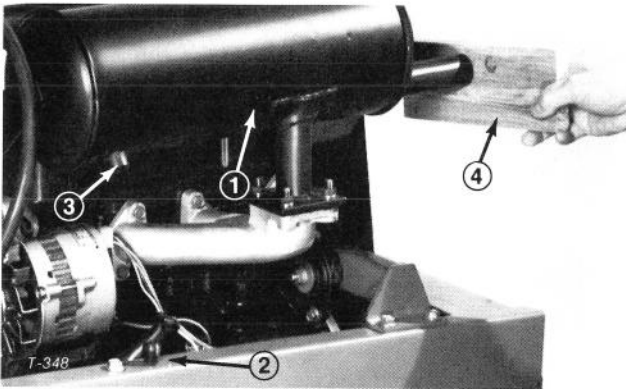

Figure 53
2. Remove pipe plug from cleanout port at lower side of muffler (Fig. 53).
3. Start engine, plug the normal muffler exit with block of wood or metal plate so exhaust flow will be forced out the clean-out port (Fig. 53). Continue to block exit until carbon deposits cease coming out port.